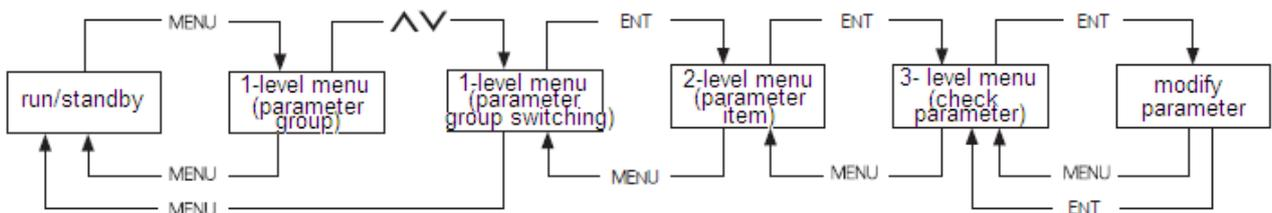
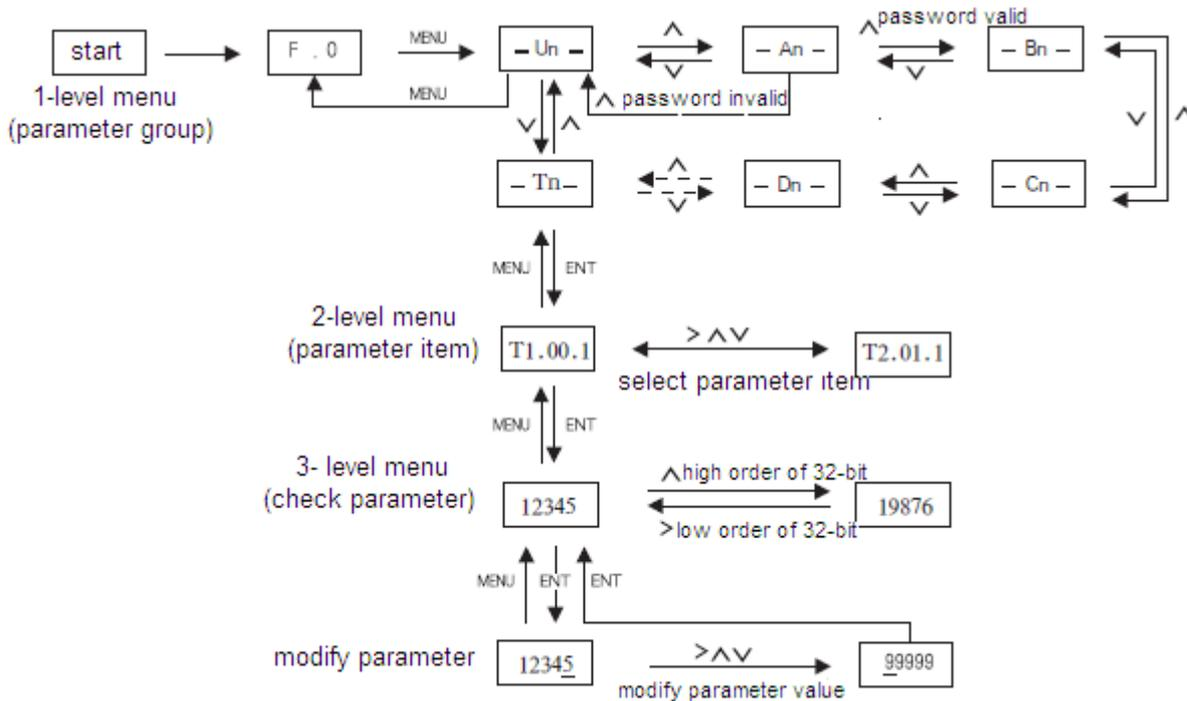

Figure 3-12 3-level menu operation flow chart
Figure 3-13 3-level menu operation flow chart
The three-level menu: menu item (1-level menu), parameter tem (2-level menu) and parameter setting (3-level menu). The operation process is shown in Figure 3-12.
During operation in 3-level menu, user may return to 2-level menu by pressing **MENU** or **ENTER** (see Figure 3-12 and Figure 3-13). The difference between the two operations: after press ENTER key, the set
parameter value will be saved to the controller, and then return to 2-level menu; it will return to 2-level menu directly without saving the parameter value by pressing MENU. The detail operational procedures of 3-level menu are shown in Figure 3-13.
The flow chart of modify the parameters with the manipulator is shown in Figure 3-13.